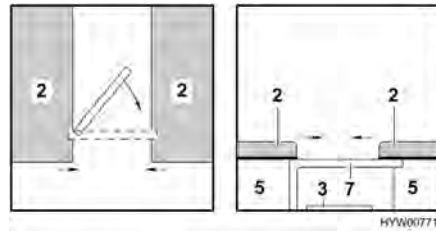

Fig. 43 During conversion
- Release bed leg (Fig. 43,7) and turn it a quarter turn.
- Ensure that the bed leg is correctly placed on the bedding box (Fig. 43,5) opposite.
- Lightly lift up the two seat cushions (Fig. 43,2) and pull them to the middle.